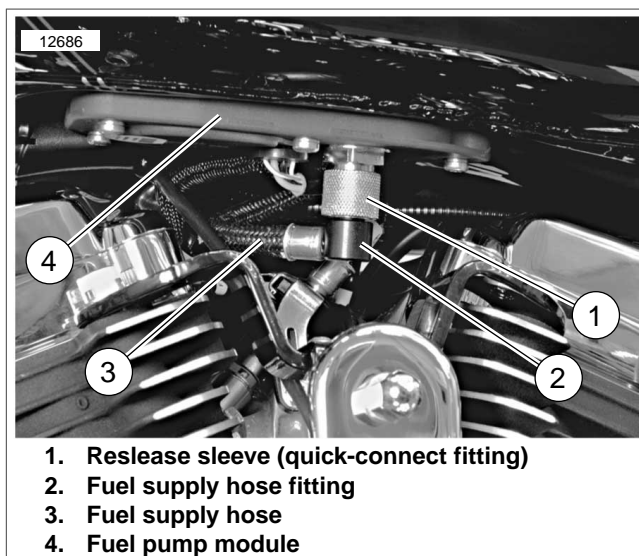

Figure 4-4. Fuel Tank Quick-Connect Fitting
2. See Figure 4-4. Push up on release sleeve (1) on fuel pump quick-connect fitting and pull down on fuel supply hose fitting (2) to disconnect fuel supply hose (3) from fuel pump module (4). Immediately clean up any fuel spills.